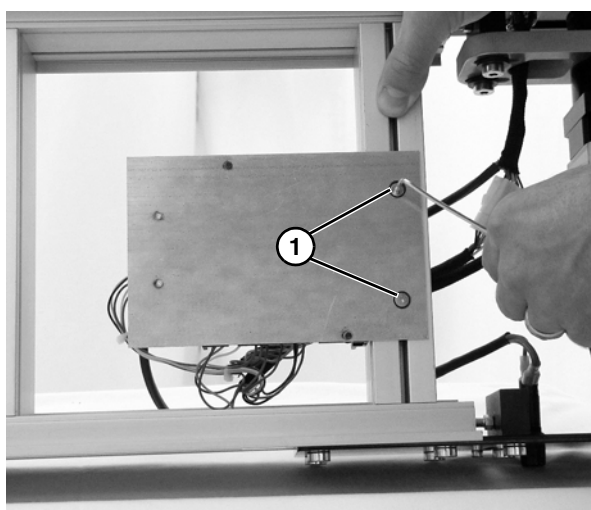

Figure 22
2. Remove control board mounting screws (**Figure 22, item 1**) from bottom of plate.